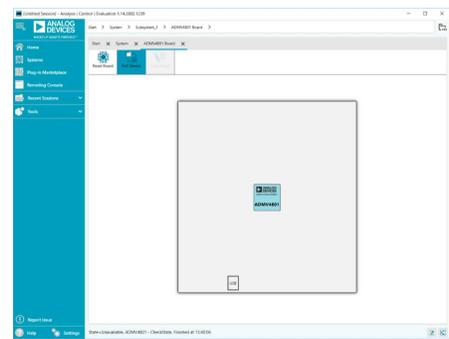

Figure 7. ADMV4801-EVALZ Plugin View
4. The ADMV4801 Board tab opens. Double-click the ADMV4801 icon in the middle of the window (see Figure 7).